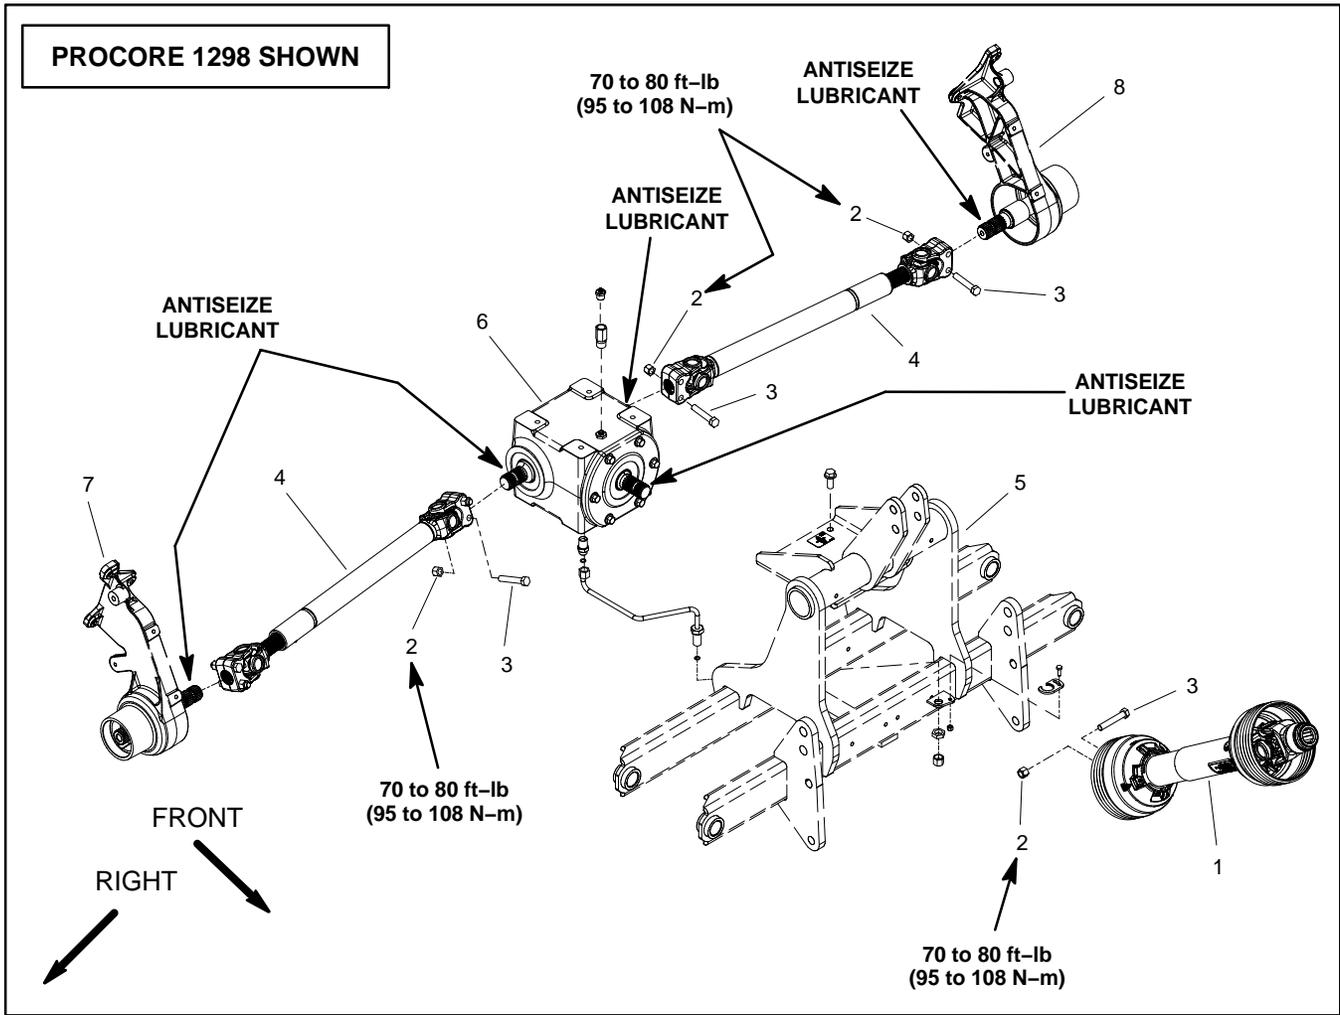

Figure 35
NOTE: The ProCore 1298 uses two (2) identical coring head driveshafts (shown in Figure 35). The ProCore 864 uses one (1) coring head driveshaft.
Removal (Fig. 35)
Installation (Fig. 35)